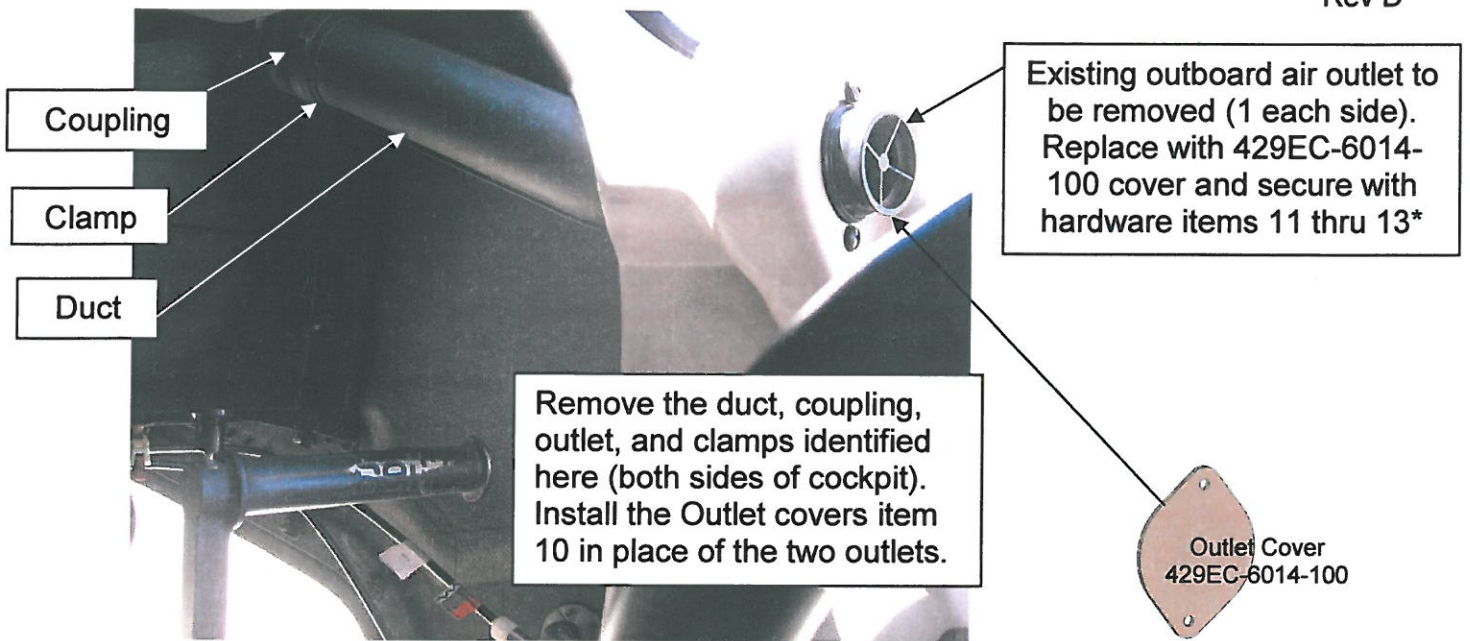
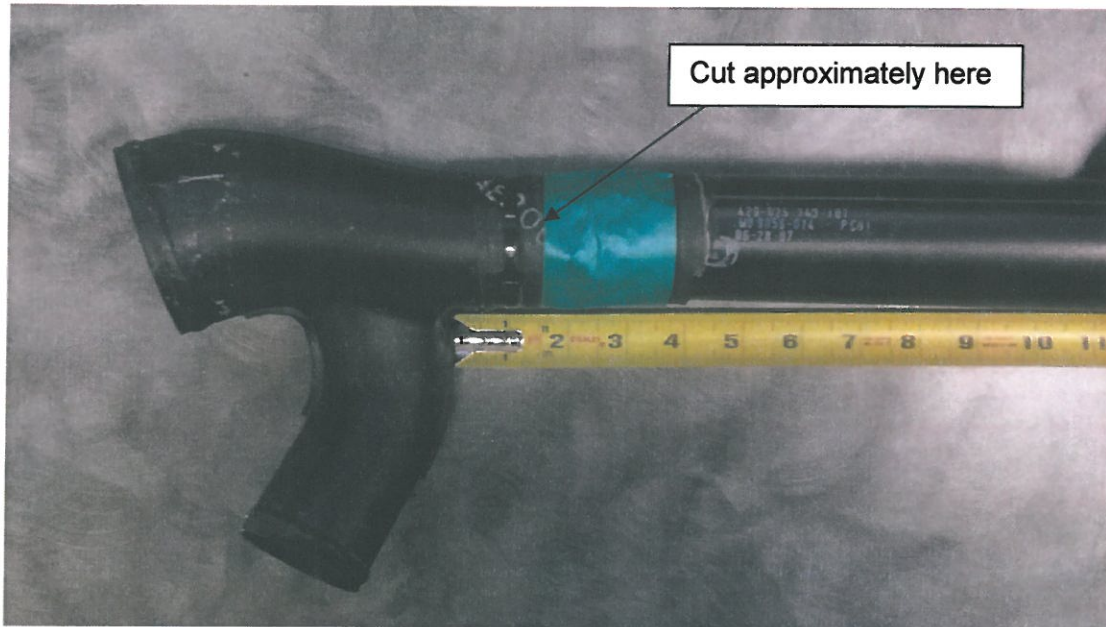

Figure 1. Removal of existing ductwork
Figure 4. Duct cut detail for p/n 429-025-342-102
- 1) Remove the existing outboard air outlet located by the door pillar (1 each side) per figure 1.*
*NOTE: Aircraft serial no.s 57081 thru 57250 are fitted with an air outlet duct that's configured with an integral Y fitting in place of the coupling and clamp shown in Figure 1. It is permissible to alter this duct by cutting through the duct approximately 1.5-2.0 inches aft (See Figure 4) of the Y branch and remove the aft portion duct / air outlet assembly. Alternately the integral duct/Y p/n 429-025-342-102 can be replaced by the short Y fitting p/n 429-025-142-102 right side, p/n 429-025-142-101 left side.